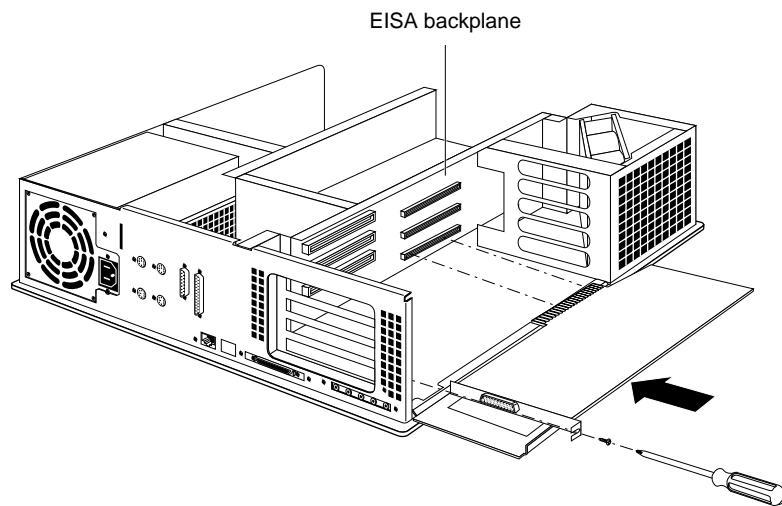

Figure 2-15 Installing the XL Graphics Board
- Align the metal extensions on the left of the board with the bottom board slot on the chassis, as shown in Figure 2-15.
3. Insert and tighten the screw that holds the board to the chassis, as shown in Figure 2-15. The screw opening is located on the metal bracket on the left side of the board.